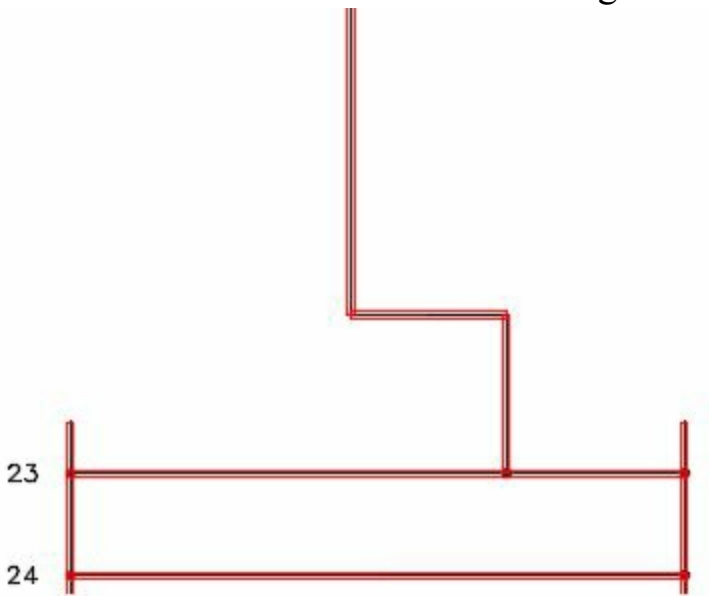

Figure-66. Highlighted wires
- Click on the **OK** button from the dialog box. The wires will be highlighted; refer to Figure-66.